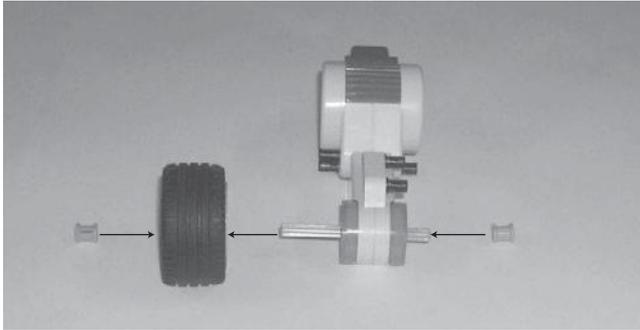

Figure 9.7
Step 3—Connect the completed wheel to the servo motor using one 7M cross axle and two bushings as shown in Figure 9.7.